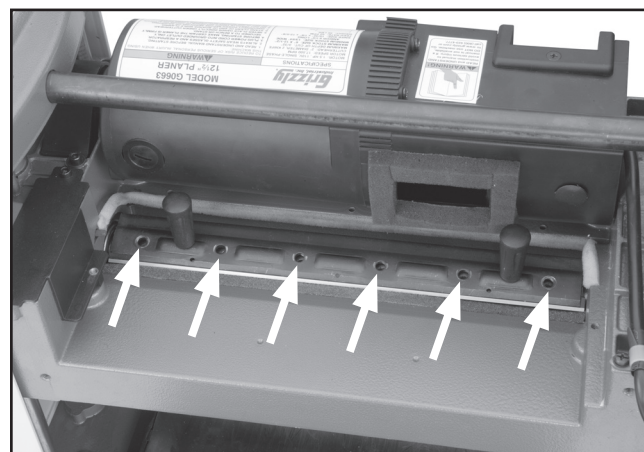

Figure 23. Gib installation.
3. Using the magnets, replace the gib over the knife. Secure the gib with the six screws in the locations shown in **Figure 23**.